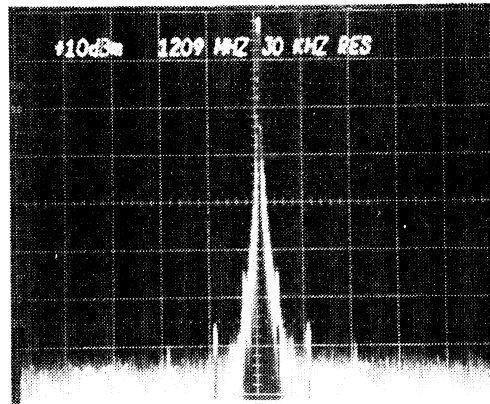

Figure 4-3 DUAL VCO 1210 MHz Output
18. Connect Spectrum Analyzer to J1902 on the Dual VCO. Verify the output is 1210 MHz at +5 to +12 dBm. (Ref. Figure 4-3)
19. Using Keyboard (18), select RF 998.0000 MHz.